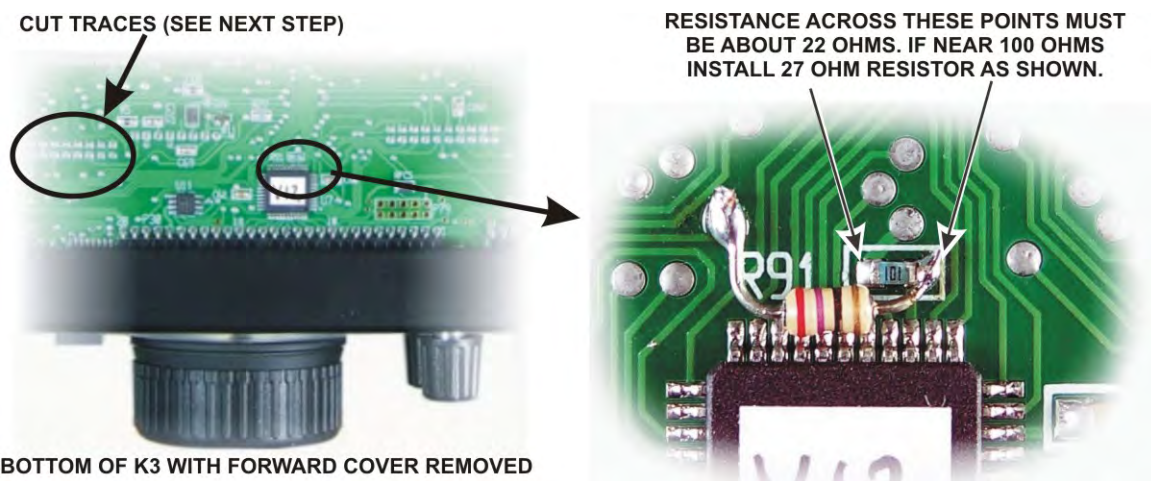

Figure 22. R91 Modification.
- Locate R91. It is a small surface-mount resistor near the front center of the RF board (see Figure 22).
- Use your DMM to measure the resistance across R91 in the circuit. If the resistance is about 22 ohms, you do not need to add the leaded resistor. Go directly to the next step below. If the resistance is near 100 ohms, install the 27 ohm (red-violet-black) 1/8-watt resistor as shown in Figure 22. The pads shown were chosen to make installation easier than trying to solder directly to both ends of R91. Take care not to use more heat or solder than necessary to avoid damaging the board or forming solder bridges across R91 or to other pads.
- Check to see if the traces shown below have been cut. They are on the bottom of the RF board in the area to the left of R91 with the front panel facing toward you (see Figure 22, above). If not, cut them as shown. This modification ensures the digital-to-analog converters (DACs) always receive the proper signal levels. It has been incorporated into all later K3s. Confirm the traces are cut using your DMM. It should indicate an open circuit, just as if your meter leads were not connected to anything.